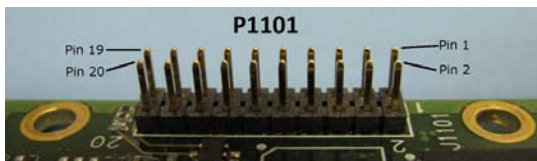

Figure 45: Top-view, P1101 Main Connector 20-Pin Header
- d. CAN Bus behavior must be asserted through the NovAtel API software. See *Section 2.5.3 CAN Bus* on *page 43* for further details. See also *Figure 45* on *page 132*